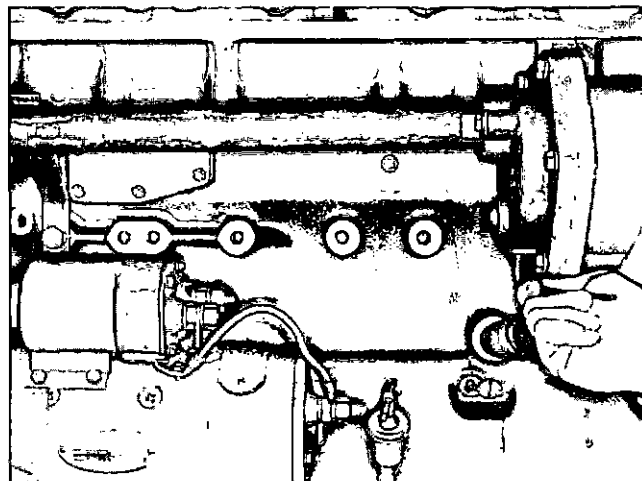
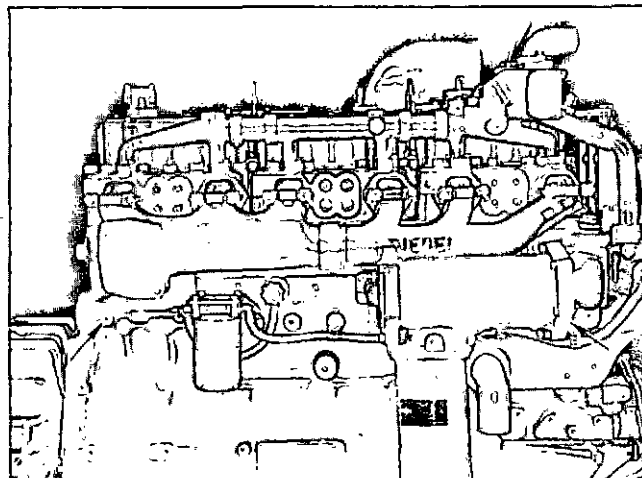

Fig. 2-8, N100124. 855 Cylinder Block Drain Point
Fig. 2-9, N100126. 927 Engine drain points
2. To drain cylinder block and head on an 855 Series engine, open petcock in thermostat housing and remove drain plug in rear of oil cooler cover or at rear of block, Fig. 2-8. To drain a 927 Series engine, open petcock in thermostat housing and remove two drain plugs, one in front of cooler and the other at rear of block, Fig. 2-9.